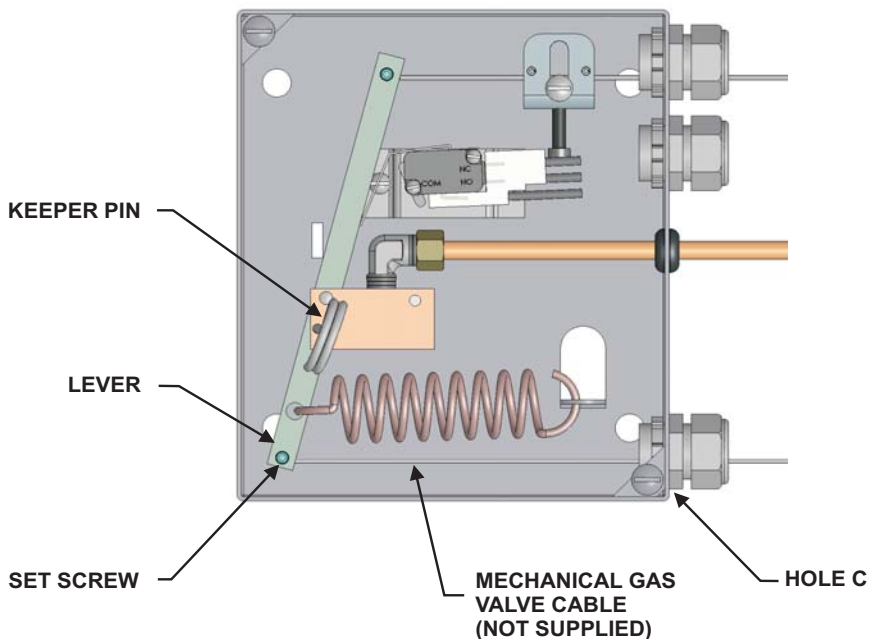

Figure 4-65. Cabling Mechanical Gas Valve Cable in the KRS-50 Control Box
The KRS-50 Control Box can close one mechanical gas valve upon actuation by relaxing the 1/16-inch (2 mm) stainless steel cable installed from the gas valve through conduit and Corner Pulleys to the hole on the valve body lever, next to the spring connection (Figure 4-65).
3. Connect 1/2-inch (13 mm) EMT to hole "C" on the side of the KRS-50 Control Box (Figure 4-65).